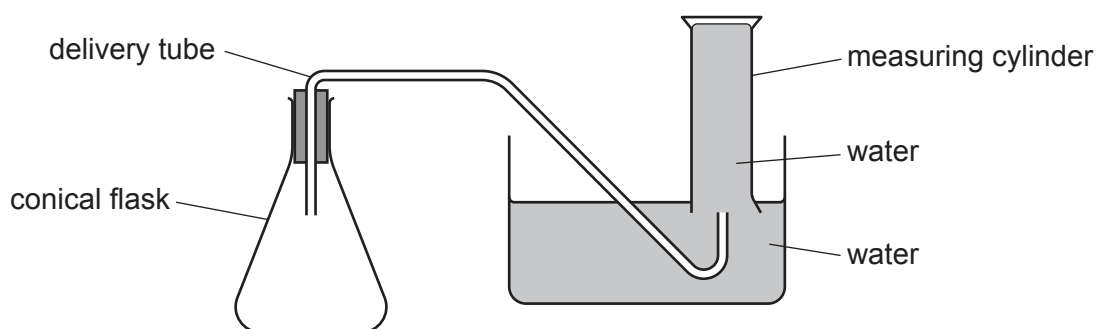

Fig. 3.1
- The apparatus should be assembled as shown in Fig. 3.1.